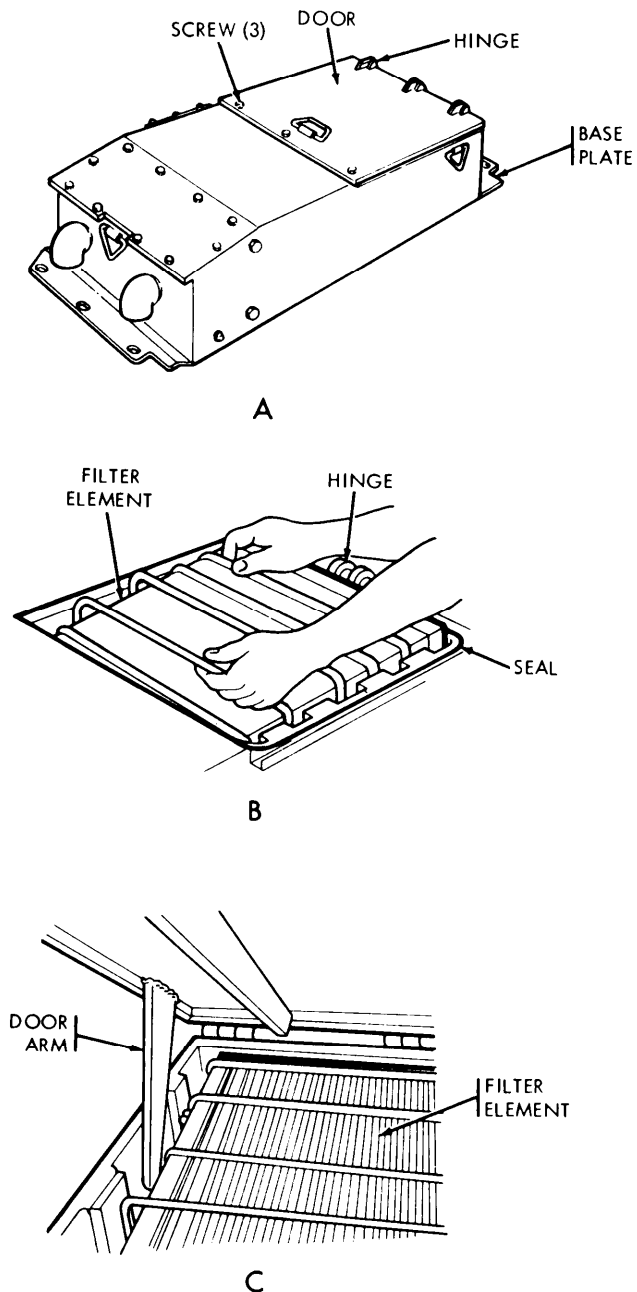

Figure 3-1. Top loading air cleaner filter element replacement.
a. *Top Loading Air Filter Element (Fig. 3-1).*